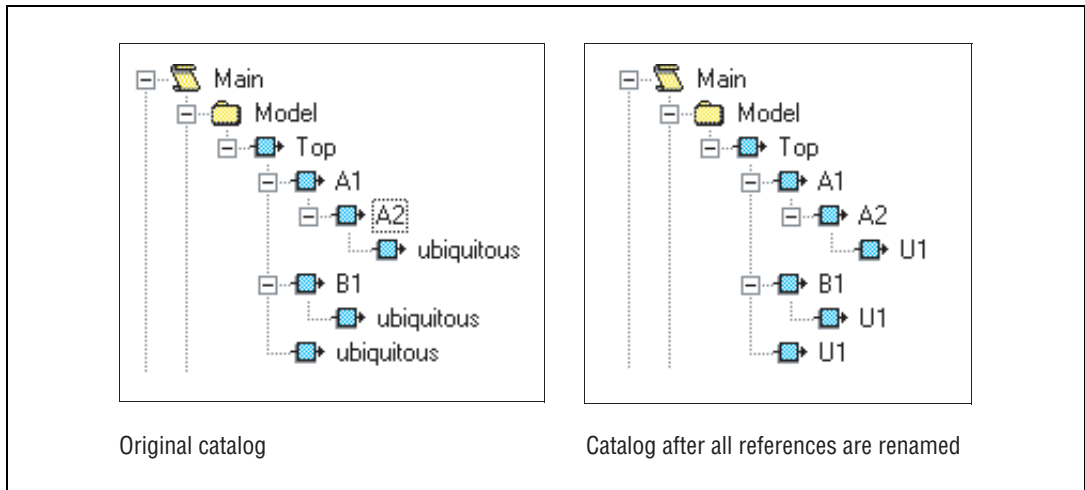

Figure 4-5. Renaming a SuperBlock and All References
- If you rename a SuperBlock and enable **Rename All References** in the Rename dialog box, SystemBuild gives the specified name to the SuperBlock definition and all references to it. The original SuperBlock is removed from the catalog. Figure 4-5 shows this concept, where the SuperBlock `ubiquitous` has been renamed to `U1`.